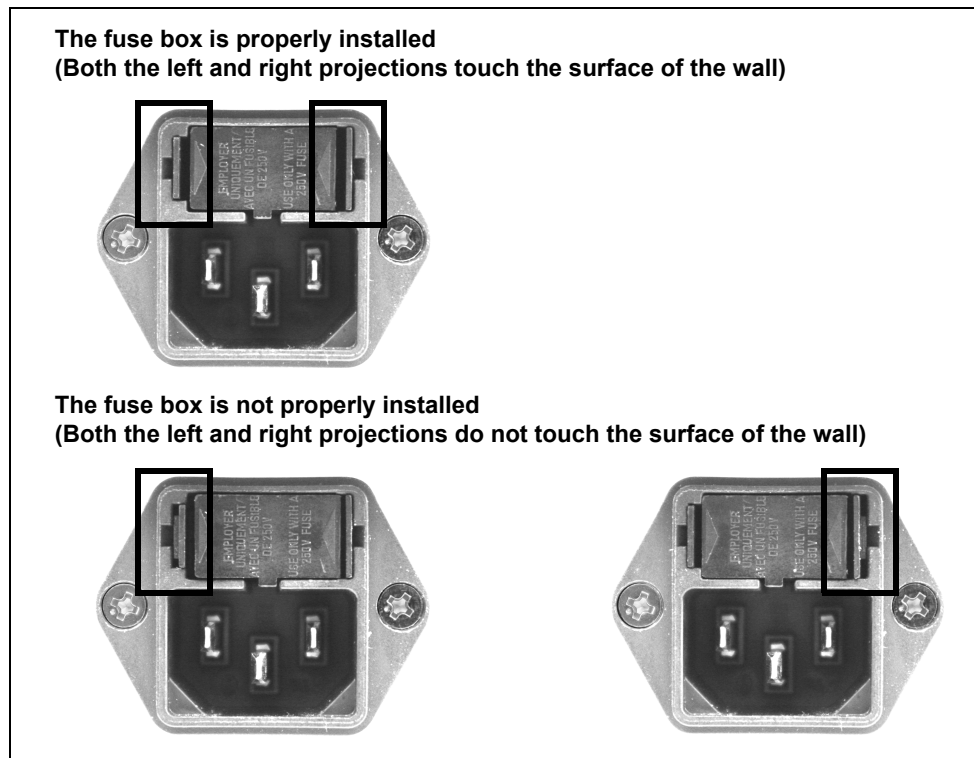

Figure 6.9
- 5 Insert the fuse box into this equipment until it clicks. Confirm that the fuse box is properly installed, referring to Figure 6.9.